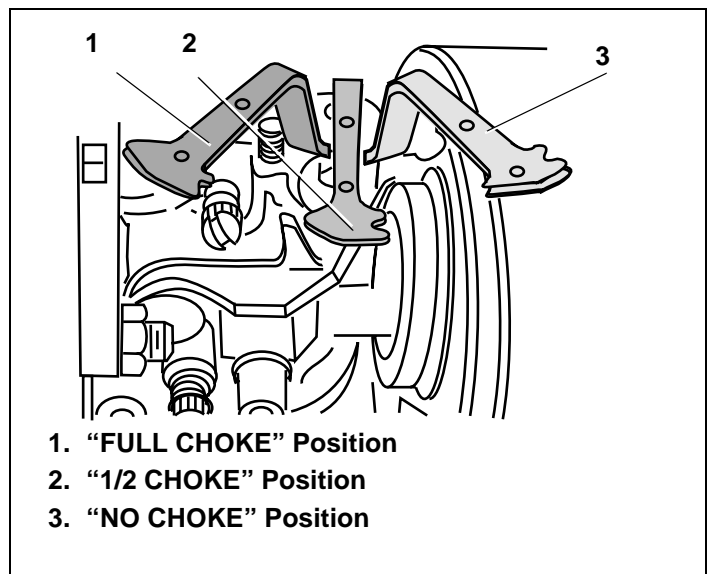

Figure 20. Horizontal Mounted Choke Control
- b. Momentarily move choke control to "1/2 CHOKE" position until engine runs smoothly. See Figures 20 and 21. Afterward, continue reading instructions below.
- a. *Momentarily move choke control back to "FULL CHOKE" position.* See Figures 20 and 21.